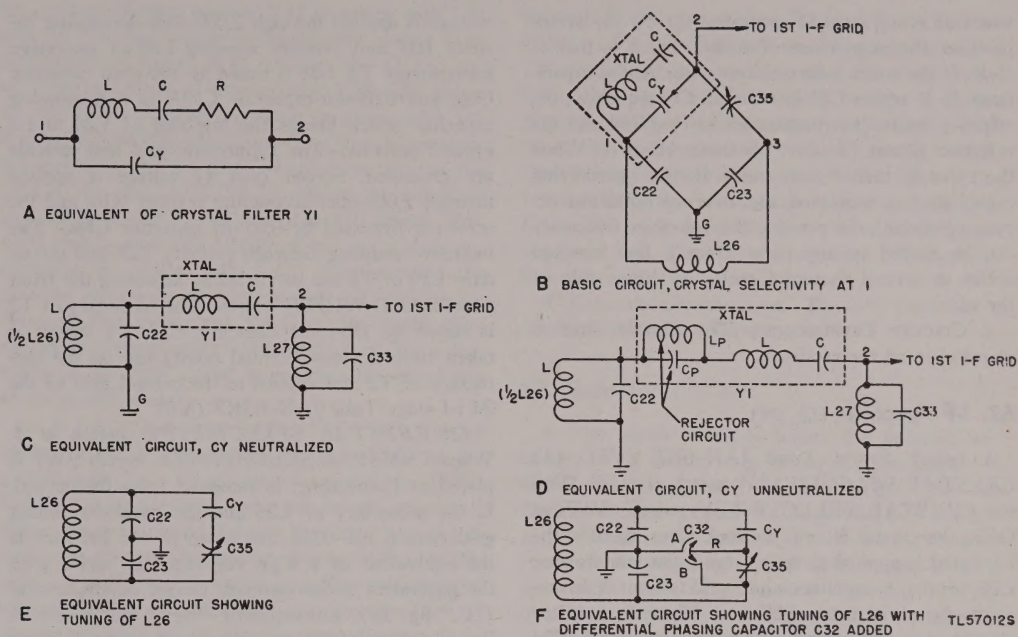

Figure 28. Radio Receiver BC-779-B, functional and equivalent diagrams of crystal filter circuit.
(4) Refer to appendix III for circuit details of Improvement Kit MC-531.
61. Crystal Filter (fig. 28)
a. EQUIVALENT CRYSTAL CIRCUIT. The equivalent electrical circuit of a crystal is shown in "A," figure 28. The circuit, and hence the crystal, are resonant at two frequencies: The frequency at which the reactance of L is equal to the reactance of C (series resonance), and the frequency at which the effective reactance of L-C (in series) is inductive and equal to the capacitive reactance of C_Y (parallel resonance). At the series-resonant frequency the crystal acts as a low-impedance connection between 1 and 2. At the parallel-resonant frequency the crystal acts as a high impedance between 1 and 2.
b. BASIC FILTER CIRCUIT ("B," fig. 28). Capacitors C22 and C23 (100 mmF each) are connected in series across the secondary of i-f input transformer L26, and their junction is grounded to provide a midpoint connection in the resonant circuit L26-C22-C23. Consequently, the capacitor voltages are always of equal amplitude but 180° out of phase. Phasing capacitor C35 (1.5 to 5 mmF) is connected between 3 and 2, and the crystal is connected between 1 and 2.
c. NEUTRALIZATION OF C_Y . Capacitors C22, C23, C35, and C_Y (the capacity between the crystal holder plates) form a capacity bridge; the input is applied to 1 and 3, the output is taken from 2 and G. When capacitor C35 is adjusted so that its capacitance is equal to that of C_Y , the voltage coupled from 3 through C35 to 2 is equal and opposite to the voltage coupled from 1 through C_Y to 2. Under this condition C_Y is neutralized and the crystal acts as a series-resonant circuit only ("C," fig. 28). Since the crystal is resonant at the intermediate frequency, there is (in effect) a direct connection between 1 and 2. As indicated in "C," figure 28, only the voltage across C22 (one-half the secondary voltage) is applied through the crystal to the grid circuit of the first i-f stage.
tance of L - C and the capacitive reactance of C_Y . For simplicity the parallel-resonant circuit is denoted as rejector circuit $L_P C_P$ in "D," figure 28. L_P and C_P denote the effective inductance and capacitance at the parallel-resonant frequency. L and C indicate the effective inductance and capacitance of the crystal at the series-resonant frequency, in this case the 465-kc i.f. In other words, unless C_Y is neutralized, the crystal acts simultaneously as a parallel- and series-resonant circuit. The parallel-resonant circuit $L_P C_P$ has no effect on the 465-kc i.f. but presents a high impedance to, and therefore rejects, the frequency to which $L_P C_P$ is resonant. L and C present extremely low impedance to the 465-kc i-f signal voltage and high impedance to voltages at different frequencies. *With underneutralization the resonant frequency of $L_P C_P$ is higher than 465 kc.*
f. CAPACITOR C32. Capacitor $C35$, in series with capacitance C_Y , is across $L26$ and affects its tuning ("E," fig. 28). To avoid the detuning effect and to enable shifting the rejection frequency to either side of the i.f., differential PHASING capacitor $C32$ ("F," fig. 28) is used in the radio receiver. Stator sections A and B are so arranged that, as rotor R is turned out of one stator into the other, the capacitance of the first decreases by the same amount that the capacitance of the second increases. Thus, whether the rotor is entirely engaged in stator A, is at a midpoint, or is entirely in stator B, the effective capacitance across A-B, and therefore across $L26$, remains constant. Assume that $C32$, the PHASING capacitor, is set at the arrow position of the PHASING control on the front panel and
(2) *CRYSTAL SELECTIVITY switch at 1.* When CRYSTAL SELECTIVITY switch SW7 is placed at 1, the short is removed from the crystal. If the secondary of L26 and the parallel-resonant grid circuit, L27-C33, are tuned to 465 kc, each is the equivalent of a high resistance in series with the equivalent series-resonant circuit of the crystal ("C," fig. 28). Consequently, the Q and therefore the selectivity of the series-resonant (crystal) filter circuit is reduced, and the bandwidth is several kilocycles wider than that of the crystal alone.